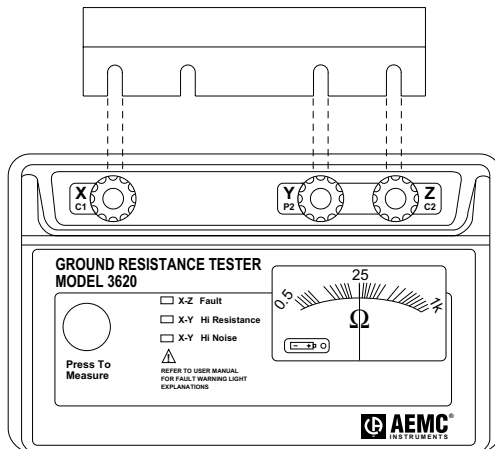

Figure 11
- Insert the resistor as shown in Figure 11.